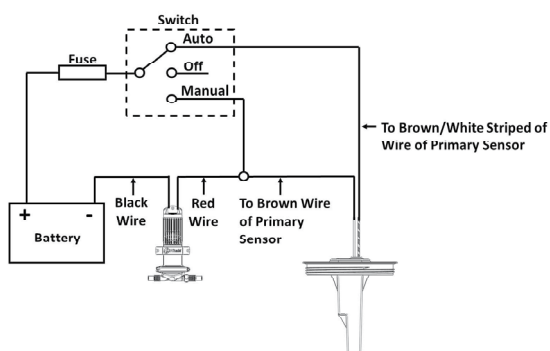
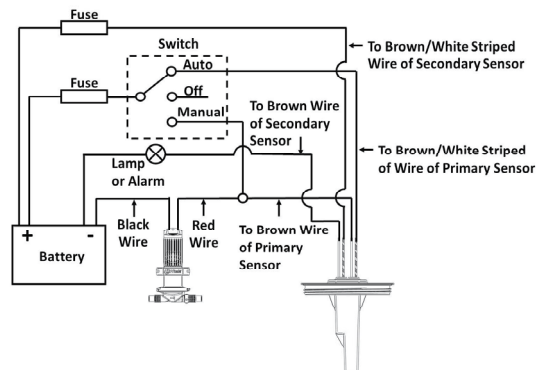

Figure 8A Wiring Diagram - for Single Sensor Models
Figure 8B Wiring Diagram - for Double Sensor Models
| Fig. 8A & B | Wiring Diagrams |
- **WARNING:** Installation **must** be carried out by a qualified electrician. Improper wiring can cause a fire resulting in injury or death. Suggested wiring information (Figure 8A and Figure 8B) is given as a guide only, and wiring **must** comply in accordance with the applicable electrical standards. Appropriate size fuses or circuit breakers **must** be installed.
Step 4: Wiring: See Figure 8A or Figure 8B.
Incorrect wiring	Check wiring Figures 8A / 8B